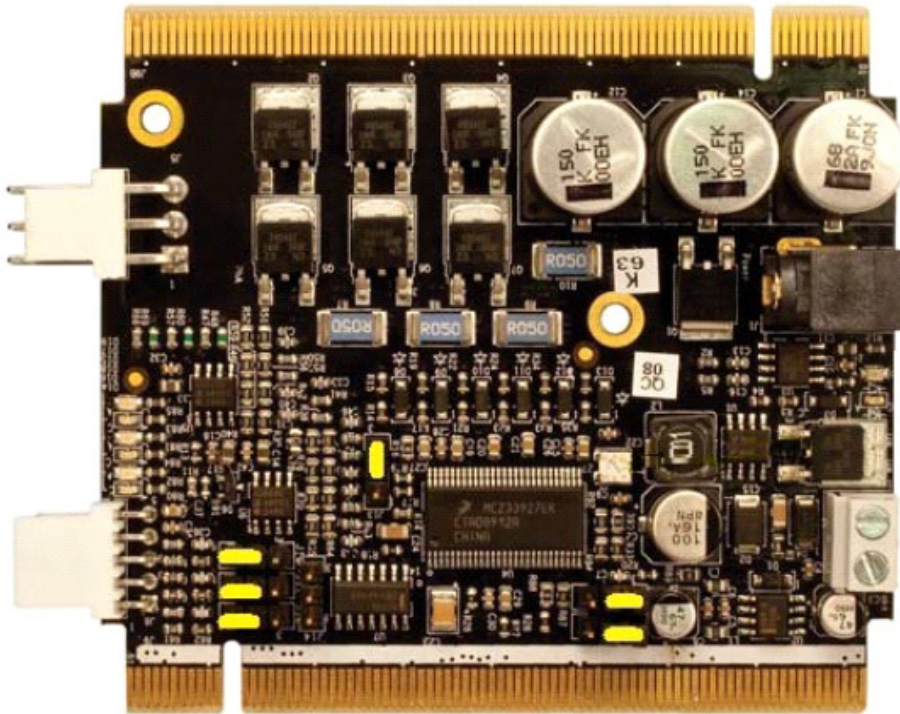

Figure 35. TWR-MC-LV3PH Jumper Settings
- TWR-MC-LV3PH — Jumpers are set as shown in Figure 35 (jumpers are in yellow)